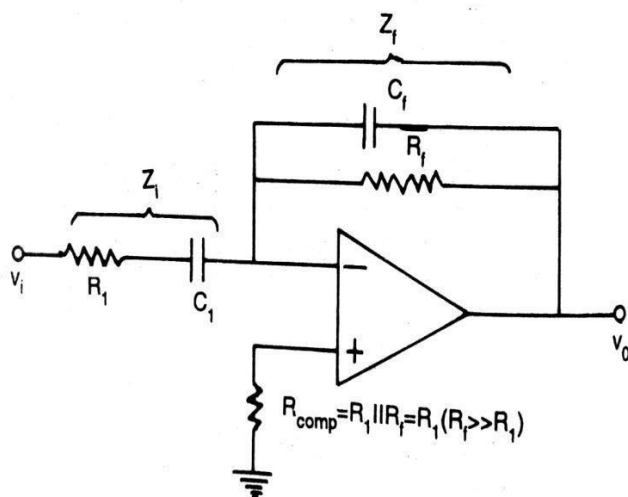

Fig. 4.21 (b) Practical differentiator
- There is one more problem in the Differentiator of figure 4.21(a).
from eq(3), it is evident that the gain increases at + 20 dB/decade for frequency $f < f_b$ and decreases at -20 dB/decade for $f > f_b$ as shown by dashed lines in figure 4.21(c)
- For the basic differentiator of Fig.4.21(a) the frequency response would have increased continuously at the rate of +20dB/decade even beyond f_b causing stability problem at high frequency.